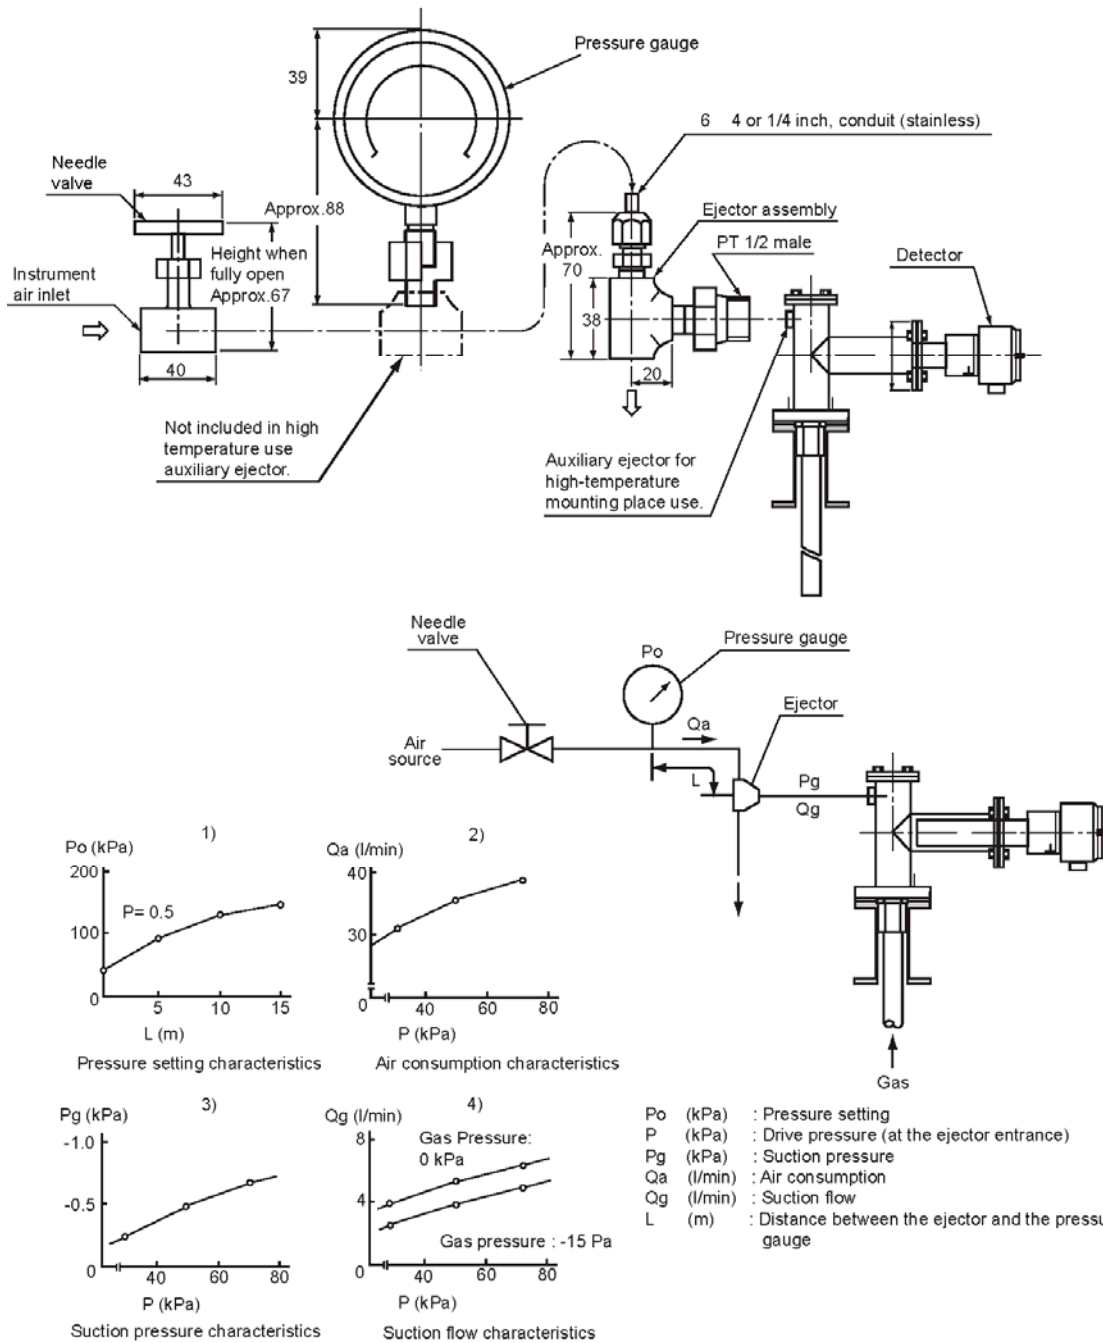

Figure 2-12 Auxiliary ejector for high temperature
To set this, proceed as follows: (refer to Figure 2-12)
**Graph explanation** (Figure 2-12)